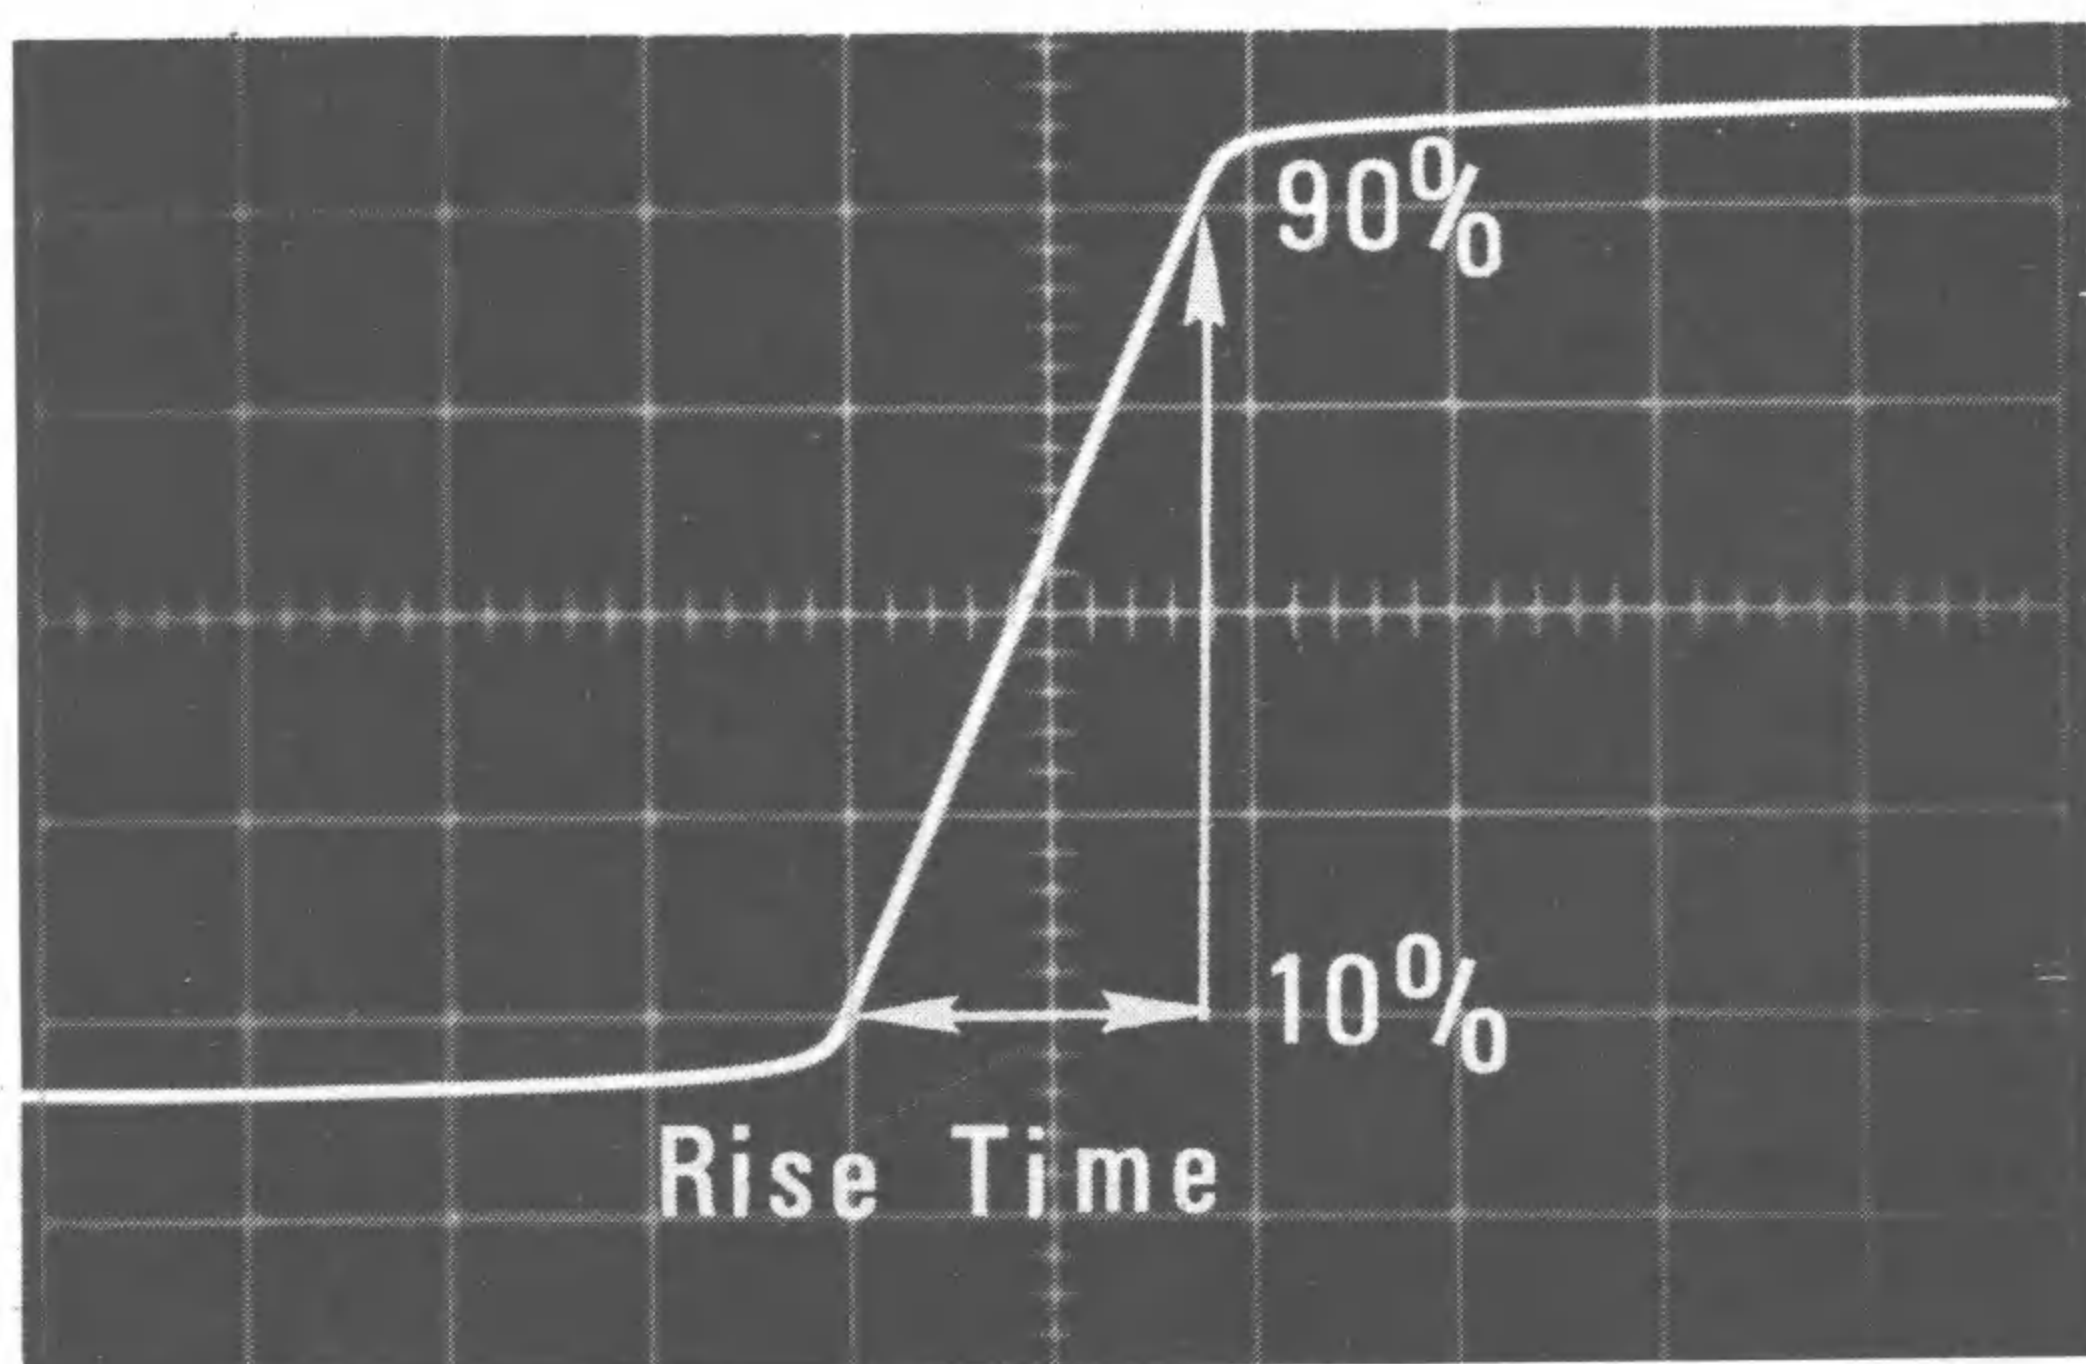

Fig. 15. Measuring rise time.
4. Depress the 5X EXPAND button to activate the 5X expand, and adjust the HORIZ POS control, so that the 10% point of the leading edge crosses at the intersection of the horizontal and vertical grid lines as shown in Fig. 15.
6. The rise time equals the distance measured in step 5, divided by 5 for the 5X expand, and multiplied by the setting of the VARISPEED switch. In Fig. 15 the distance is 1.8 divisions, and the setting of the VARISPEED switch is 20uSec/DIV.